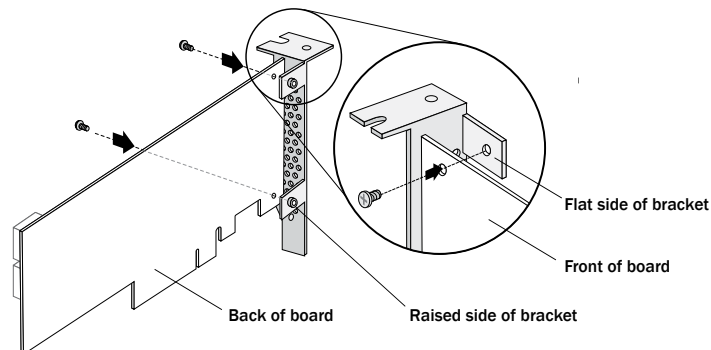

Figure 3
2. Attach the low-profile bracket to the controller board. The low-profile bracket is installed on the *back* side of the controller, with the mounting screws inserted from the front of the controller, as shown the Figure 3.
Caution: The mount points on the low-profile bracket have a smooth or flat side and a raised side that looks like a spacer (see Figure 3). Be sure to install the bracket with the flat side against the controller PCB and the raised side facing away from the PCB.